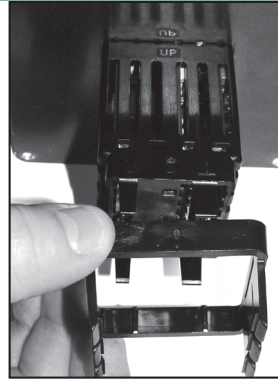

figure 2.
3. Insert the case assembly into the panel cutout and slide the mounting collar over the back of the controller (see figure 2).